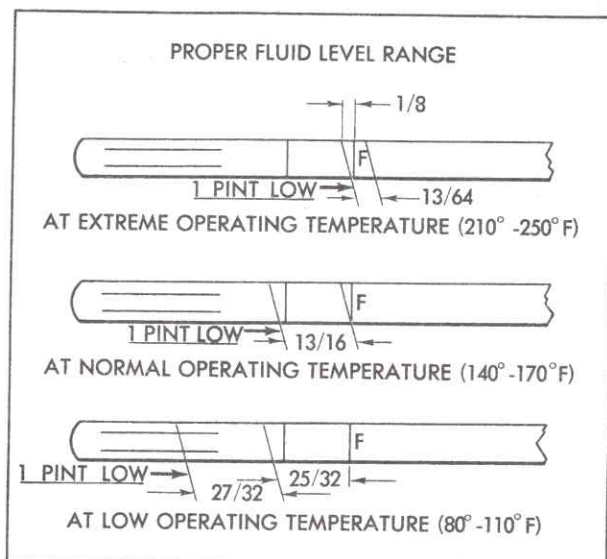

Fig. 7-23 Transmission Oil Level (Except 693)
fresh fluid added to obtain the proper level on the dipstick, Fig. 7-23. For cars subjected to heavy city traffic during hot weather, or in commercial use, when the engine is regularly idled for prolonged periods, the bottom pan should be drained every 12,000 miles.
Fluid level should be checked at every engine oil change. The full "F" and "ADD" dimple marks on the transmission dipstick indicate one pint difference. Correct fluid level is determined at normal operating temperature (170°F.). Careful attention to transmission oil temperature is necessary, as proper fluid level at low operating temperatures will be below the "ADD" mark on the dipstick, Fig. 7-23, and proper fluid level at higher operating temperatures will rise above the full "F" mark. Fluid level must always be checked with car on level surface, and with engine running to make certain converter is full. To determine proper fluid level, proceed as follows:
3. With engine running, add fluid, if necessary, to bring to proper level, Fig. 7-23.
9. Reduce engine speed to slow idle and check fluid level. Add fluid, if necessary, to bring to proper level, Fig. 7-23.
4. Check fluid level and add additional fluid, if necessary, to bring to proper level, Fig. 7-23.